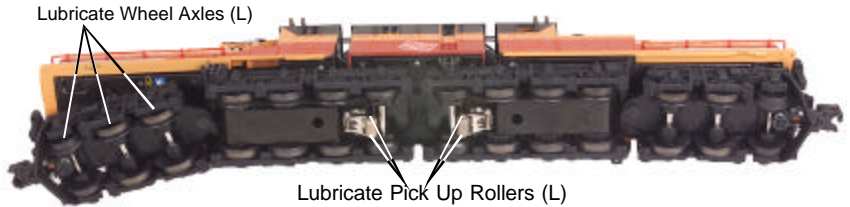
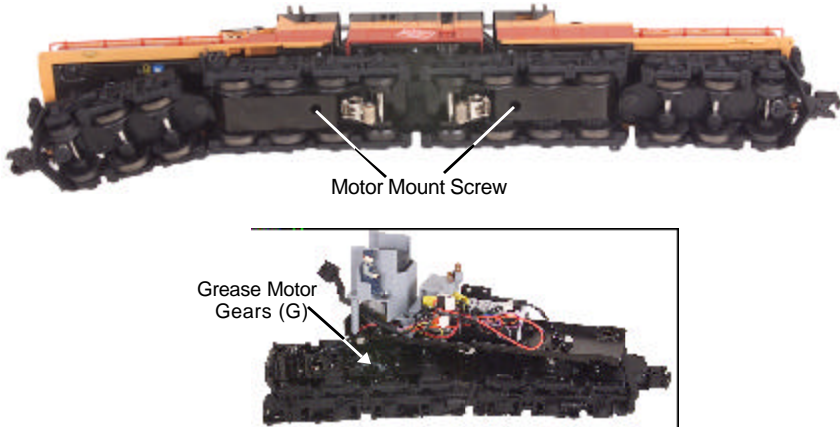

Figure 5. Lubrication Points on the Locomotive
Figure 7. Locations of Greasing Points on the Locomotive
1. Although the engine was lubricated at the factory, it is important that you lubricate the chassis before operation. Lightly grease the outside idler and drive gears (marked “G” in Fig. 7 on pg. 13) with lithium-based grease to prevent them from squeaking. Use light household oil and follow the lubrication points (marked “L” in Fig. 5 on pg. 12). Do not over-oil. Use only a drop or two on each pivot point.
You should regularly lubricate the engine to prevent it from squeaking. Use light household oil and follow the lubrication points marked “L” in Fig. 5. Do not over-oil. Use only a drop or two on each pivot point.
2. Once the body is removed, remove the trucks by unscrewing the black Phillips motor mount screw located on the underside of the drive trucks (see Fig. 7).
Lubricate the outside truck block idler and drive gears with grease. Use the diagram shown in Figure 7 above as a guide and add grease to the points marked with a “G.”